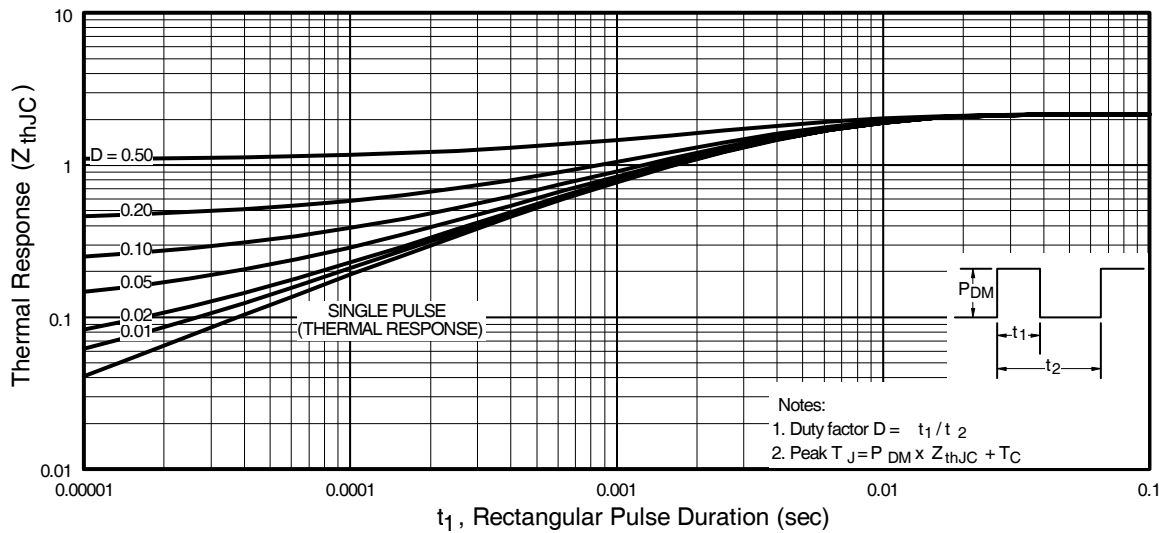

Fig 11. Maximum Effective Transient Thermal Impedance, Junction-to-Case
- ① Repetitive rating; pulse width limited by max. junction temperature. (See fig. 11)
- ② Starting $T_J = 25^\circ\text{C}$, $L = 2.3\text{mH}$